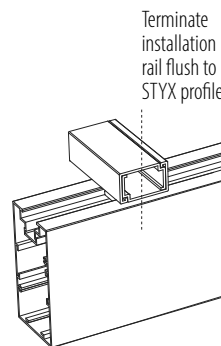

Figure 4c
- c. Position the first STYX profile to sit on the left-most Quick Lock. Ensure the end of the STYX profile is at the desired location. (Figure 4c)